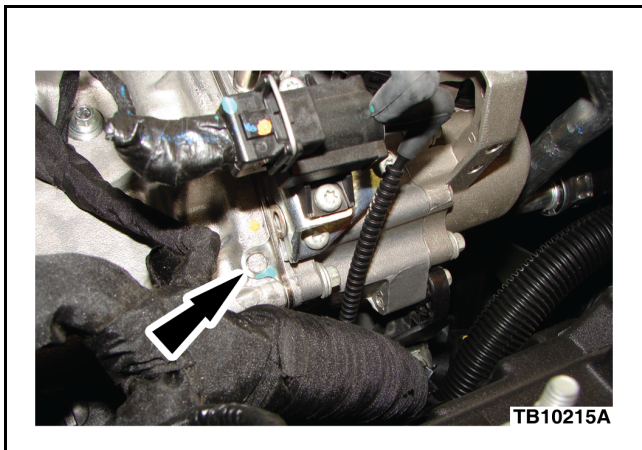

Figure 3 - Article 11-10-10
3. Inspect the engine wiring harness (12B637) for wire chafes near the EGR cooler. Was a chafe present? (Figure 3)